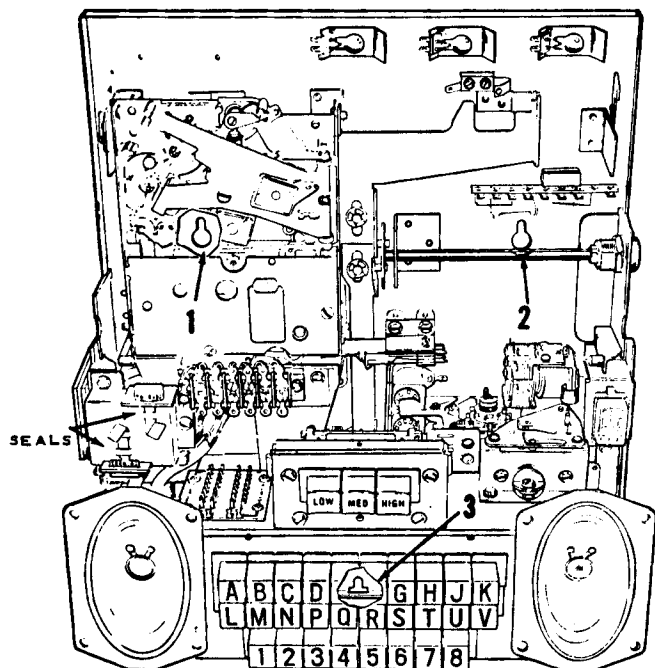

Figure 2. Interior View - Mounting and Seals.
The black and white wires of the interconnecting cable carry power to the lights and motor. The blue and black wires comprise a selection circuit to provide remote control of the selection system operation in the phonograph. The brown, red, and orange wires are for transmittal of coin deposit information to the income totalizer in the phonograph and their terminal board is covered and sealed as shown in Figure 2. The balance of wires in the cable are for audio and control of the stereo speakers in the Console.
There are three holes in the back plate for mounting, identified 1, 2 and 3 in Figure 2. The two upper holes are slotted for fitting over screws already set in the wall at the proper points. The lower hole is for rigidly mounting the Consolette by means of a screw, after it has been hung in place.
4. Replace the cover on the left hand terminal board; secure with two screws. Install one of the seals from the lower left side of the terminal board cover so that the serial number is right reading and fold the tab down at the score mark. Install the other seal from the upper right side of the terminal board cover and fold the tab up at the score mark. (See Figure 2).